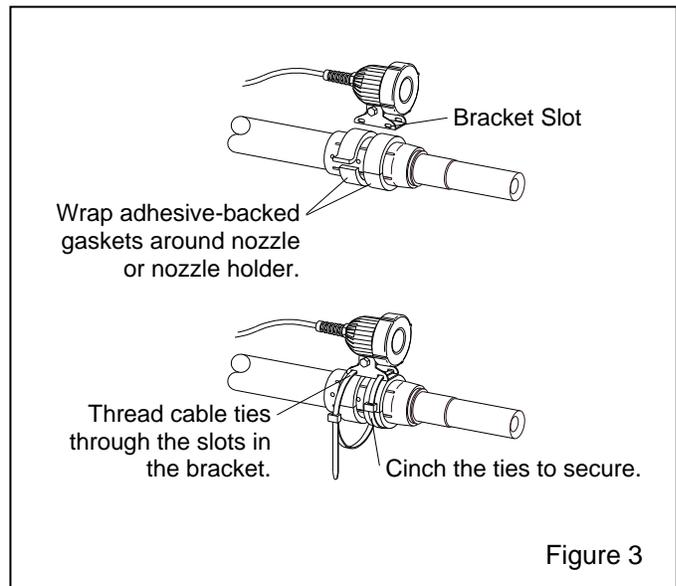

Figure 3
**2.2 Assemble Light to Blast Hose Refer to Figure 3**
**2.2.1** Use cable ties provided or user-supplied worm clams to attach the light to the blast hose, nozzle holder or nozzle, as shown in Figure 3. When attaching the light to a slick surface, such as a nozzle or nozzle holder, use adhesive-backed gasket to prevent the light from
slipping. To apply cut two lengths of gasket long enough to wrap around the holder; remove the backing and apply the gasket around the holder, spaced so one length of gasket is centered under each slot in the mounting bracket, as shown in Figure 3.
**2.2.2** Thread the cable ties through the mounting bracket slots, as shown in Figure 3, and loosely secure enough to barely hold the light in position.